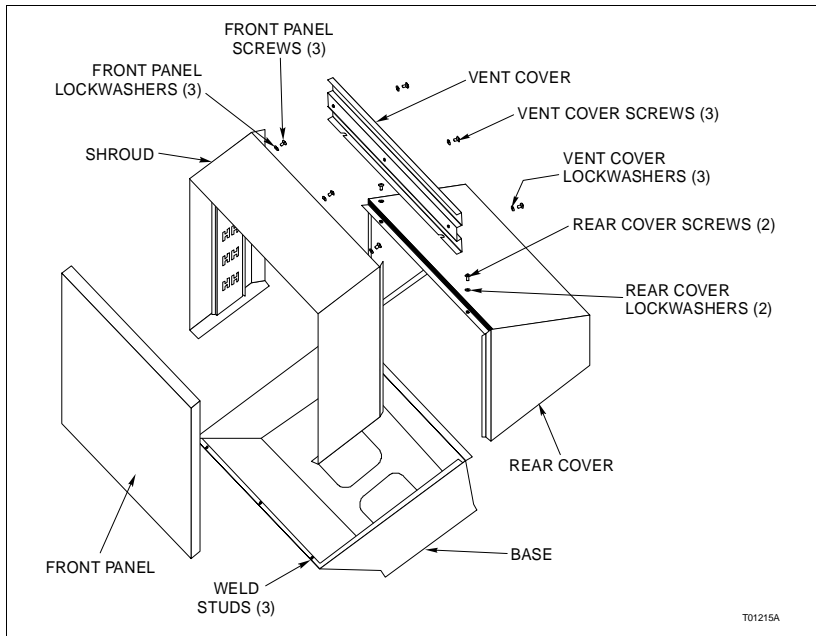

Figure PR30-1. Auxiliary Panel
- 1. Use the 2.5-mm socket driver to remove the three vent cover screws and lockwashers (Fig. PR30-1).